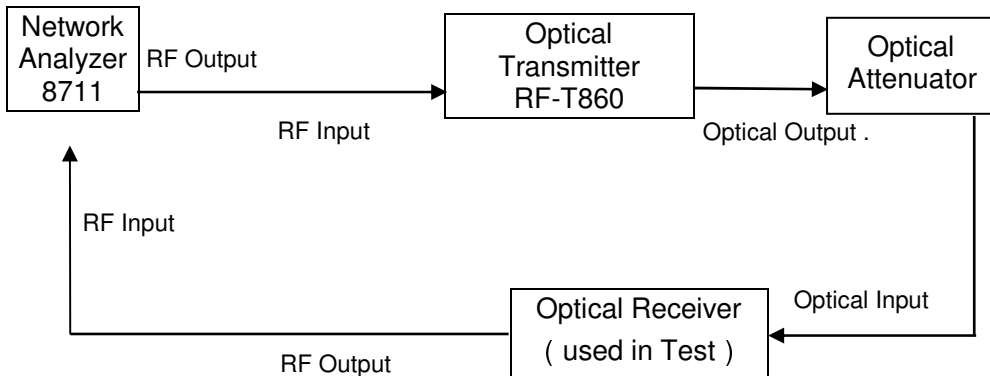

Figure 5 Test Link of Response and Return Loss
1. Referring the Figure 5 to connect the Test Equipment. Accurate the Network Analyzer.